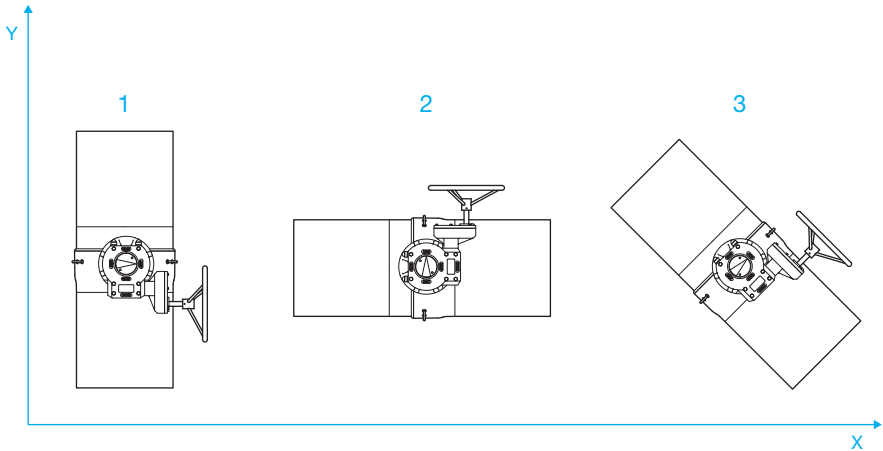

Figure 11. Possible installation positions of the valve.
Valve can be installed in a vertical (see figure 11, section 1), horizontal (2) or diagonal (3) pipeline.